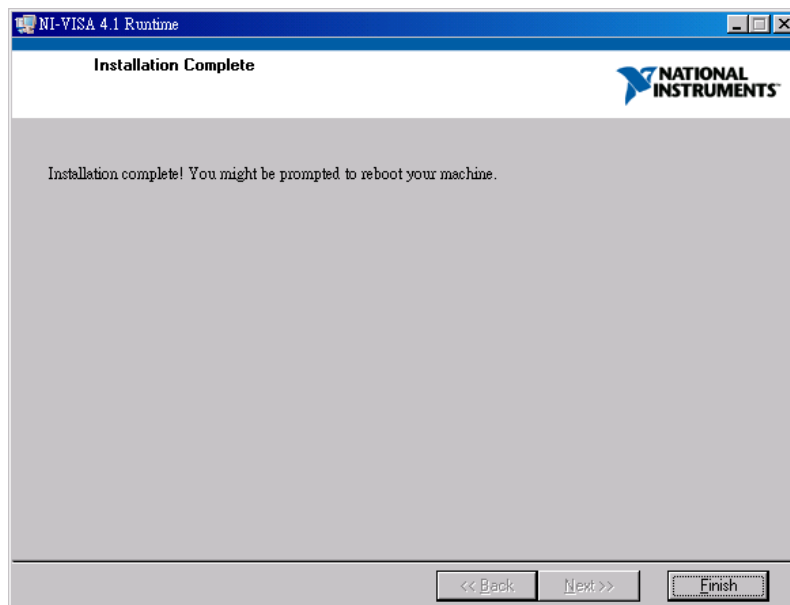

Figure 2-8 Installation Complete Window
3. Click **Next** following the installation prompt message to complete the installation procedure. A complete window will prompt as Figure 2-8 when the installation is done.